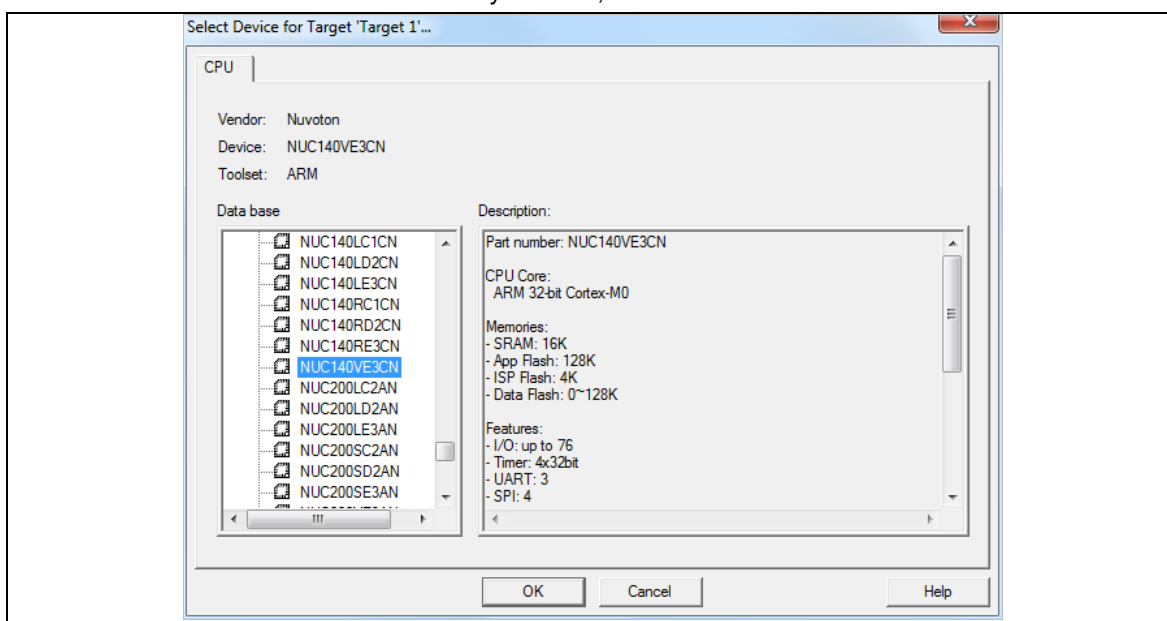

Figure 4-2 Select Device in MDK4
3. If user selects the correct device as shown in Figure 4-2, the RAM/ROM size and .SFR file will be filled up automatically. Otherwise, user has to set a correct RAM/ROM size and select correct .SFR file from "<Keil® install path>\Arm\SFD".